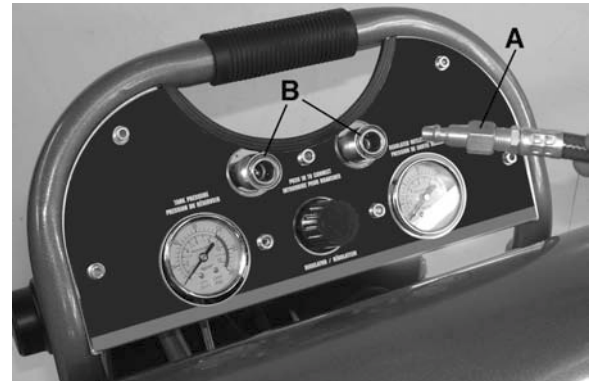

FIGURE 7
2. Connect an air hose having a male fitting (B) Fig.7 (not supplied) into one of the female quick connect couplers (A). Pull the female quick connect coupler ring backwards and push the male fitting into the coupler until it is secured, release the female quick connect coupler ring. Attach optional air tool or accessory to a female quick connect coupler installed at the other end of the air hose. To prevent air leaks, it is recommended to install Teflon Tape (not supplied) on the threads at both ends of the hose fittings.